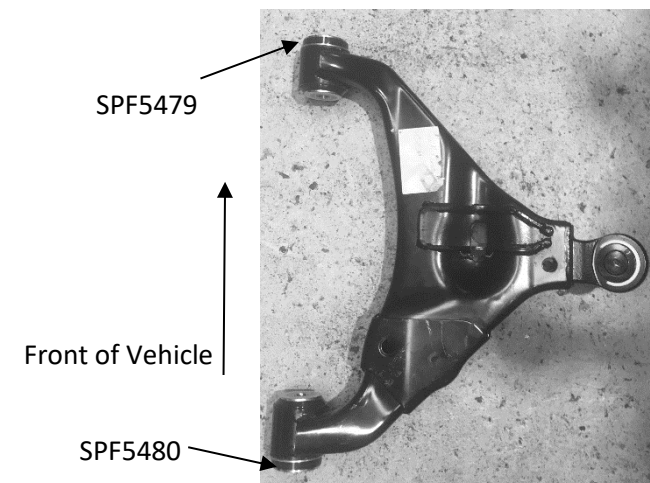

Figure 04 – Completed RHS control arm
- Complete for both bushings in control arm, completed arm should look as shown in Figure 04.